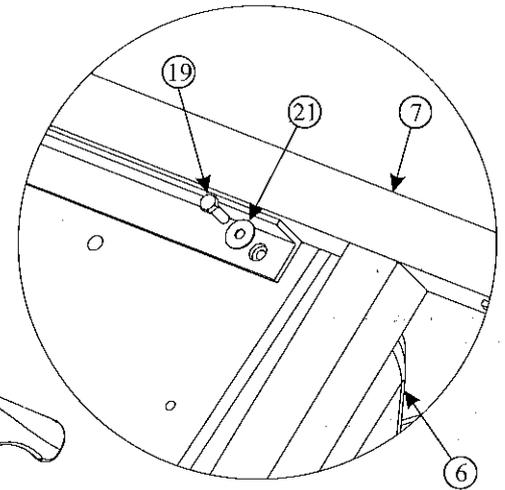

Fig. 8a.
9 Attach the two end Bucket Seats (6) by aligning the threaded holes in the bottom of the seats with the slots in the Seat Support Frame. Fix in place using four M8x25mm Set Screws (19) and four M8x25mm Washers, as shown in figure 8a.